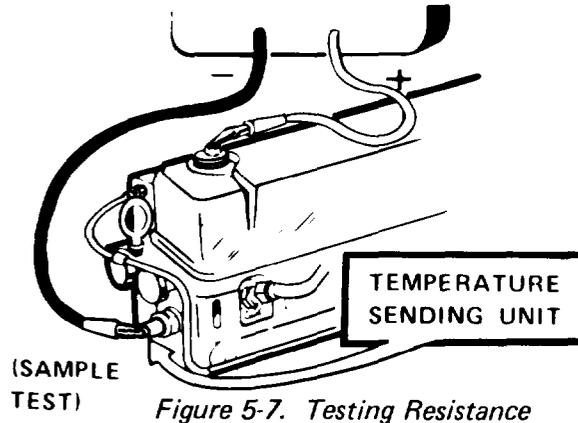

Figure 5-7. Testing Resistance
- (4) With any of the three multimeters, connect the probes across the circuit or item to be measured. Figure 5-7 below shows measuring the resistance of a temperature sending unit: